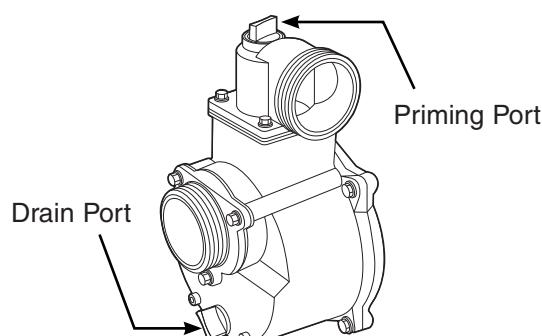

Figure 3
1. Add water to the priming port on the pump (Figure 3). Continue adding water until the water level is approximately 3 inches from the top. Install the priming pump plug. The water in the pump will create the suction that primes the pump.